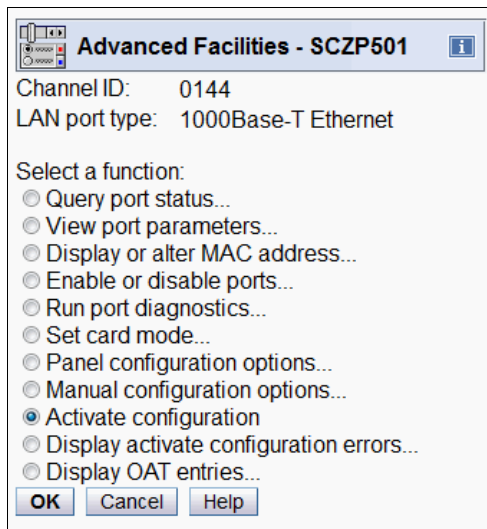

Figure 14-15 OSA/SF on HMC: Activate configuration
11. To activate your OSA configuration, select **Activate configuration** from the Advanced Facilities panel, and click **OK** (Figure 14-15).